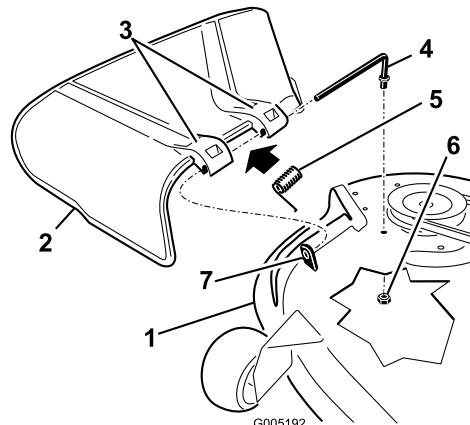

Figure 53
1. Locate items shown in Figure 53.
2. Remove the nut (3/8 inch) from the rod under the mower (Figure 53).
3. Slide the rod out of the short stand-off, internal lock washer, spring, and grass deflector (Figure 53). Remove the damaged or worn grass deflector.
4. Replace the grass deflector and internal lock washer (Figure 53).
6. Place the spring on the rod, with end wires down, and between the grass deflector brackets. Slide rod through second grass deflector bracket and internal lock washer (Figure 53).
7. Insert rod at front of grass deflector into short stand-off on deck. Secure rear end of rod into the mower with a nut (3/8 inch) (Figure 53).